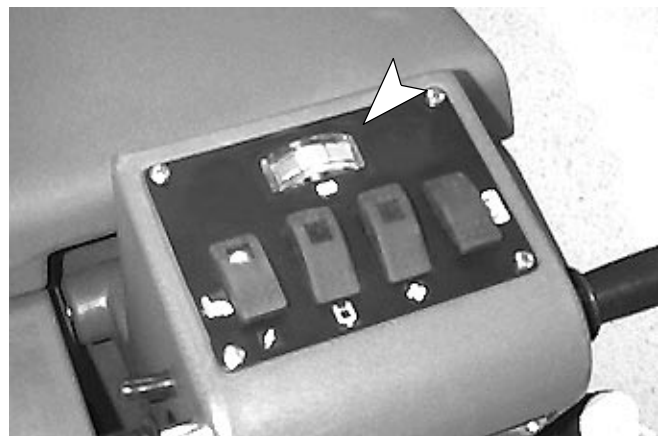

FIG. 3
5. After batteries are properly installed, turn on the main switch and check battery meter charge level to ensure batteries are fully charged. Charge if necessary, See Battery Charging (Figure 3).